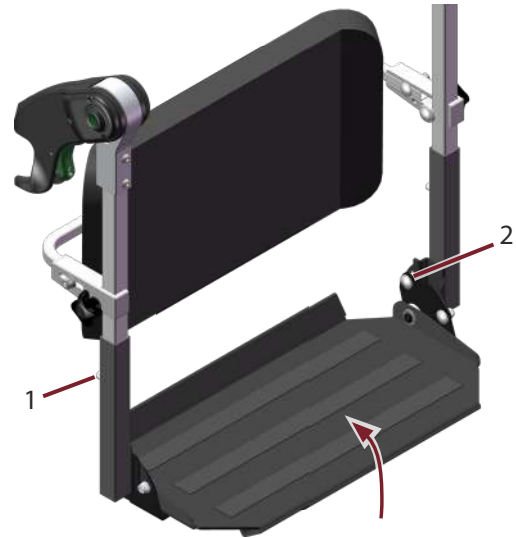

Figure 27. One piece footrest
Push in the snap locks (1 in Figure 27) on both sides and move the footrest to the desired position.
- Loosen the lock nuts (2 in Figure 27) on both sides.
The foot plate can be folded up to make it easier to get in-to and out-of the wheelchair (Figure 27).